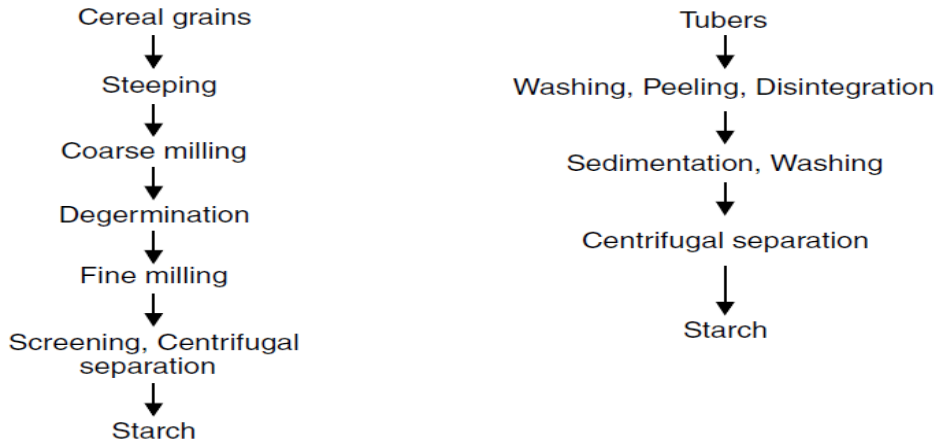

FIGURE 7.1
- ④ Amylopectin also plays a role in retrogradation over time.**
- Figure 7.1 presents the major procedures for extracting starches from cereal grains and tubers.**